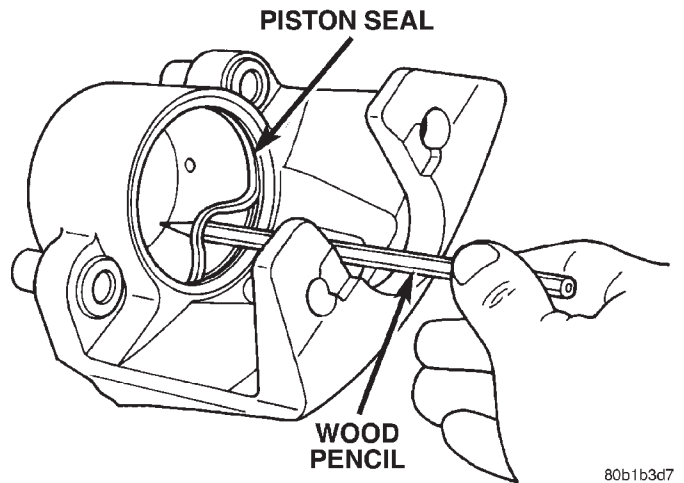

Fig. 42 Caliper Piston Seal
- (5) Remove caliper piston seal with wood pencil or plastic tool (Fig. 42). Do not use metal tools as they will scratch piston bore.